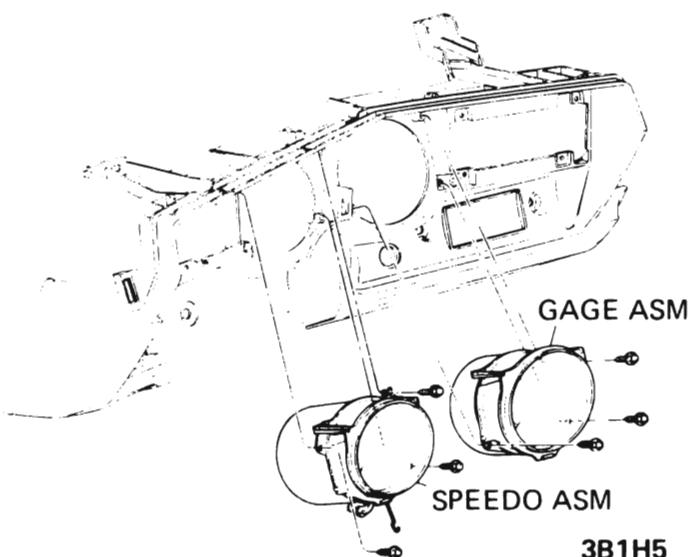

Figure 1H-5 Speedometer Removal
3. Remove three speedometer retaining screws, release speedometer cable, disengage wire connector and lift speedometer out of I.P. See Figure 1H-5.